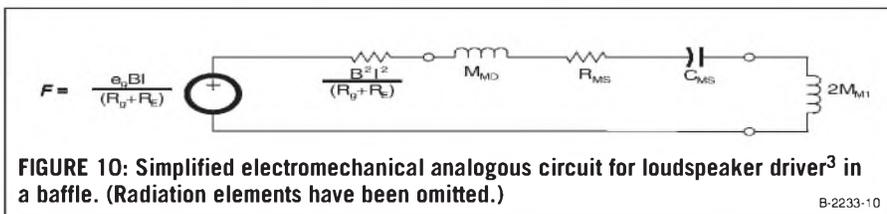
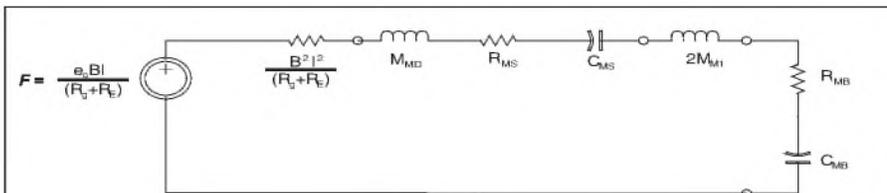

FIGURE 10: Simplified electromechanical analogous circuit for loudspeaker driver³ in a baffle. (Radiation elements have been omitted.)
FIGURE 11: Simplified electromechanical analogous circuit for loudspeaker driver in sealed cabinet⁴. (Radiation elements have been omitted.)
Less obvious mechanical elements that affect the speaker are (1) the mass of the air close to the cone, whose motion follows that of the cone, and (2) the equivalent resistance (called radiation resistance), represented by the acoustic energy radiated from the cone. Numerous authors, notably Harry Olson¹ and Leo L. Beranek², have presented equivalent circuits for loudspeaker drivers. Beranek's is shown in Fig. 10. These equivalent circuits are valid only for low frequencies, because at high frequencies, the cone does not move as a single mass, so you must use a much
The second effect of the sealed cabinet is that the trapped air acts as a spring, which adds to the stiffness of the speaker. The third effect is that any acoustically absorbent material in the cabinet, plus any small air leaks, add resistance to the circuit. Figure 11 shows the equivalent circuit of a speaker driver in a sealed box.
Notice that the only change between Fig. 10 and Fig. 11 is the addition of the mechanical resistance and compliance of the cabinet, R_{MB} and C_{MB} . The circuit is still a second-order filter fed by a voltage source. The only difference is that the combined resistance is slightly larger than for the driver alone, and the combined compliance is smaller (since compliance is modeled as capacitance, and